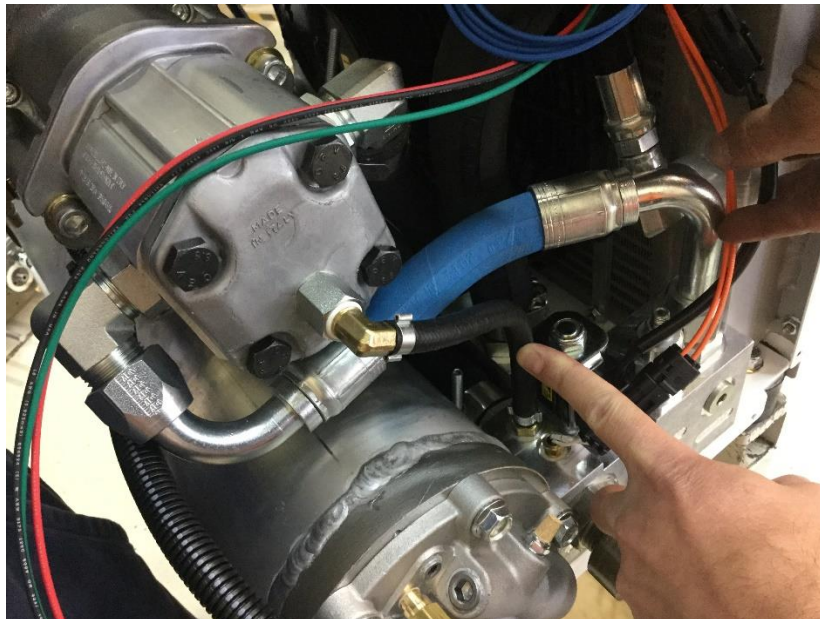

Figure 1
- 1) The Case drain hose is a ¼" ID hose located between a 90° spigot on the end of the hydraulic motor and a straight spigot above the "RETURN OUT" port on the hydraulic manifold. (Figure 1)